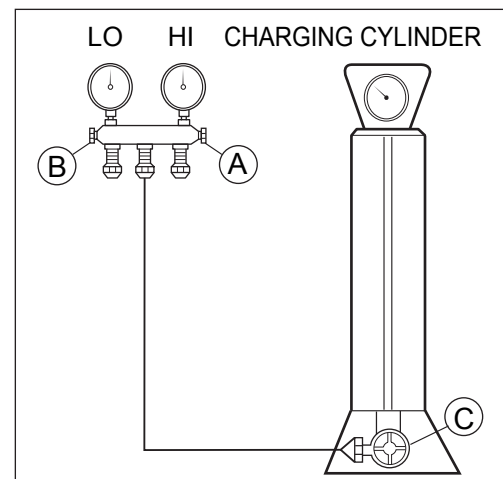

Figure 20B-Charging
- 6-4. Remove the hose from the vacuum pump and place it on the charging cylinder. See figure 20B. Open valve C.
- 7-2. Connect the charging cylinder as shown in figure 20B. With valve C open, discharge the hose at the manifold connection.